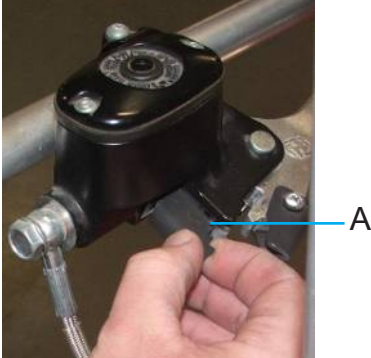

Figure 4
- Slide the latching section of the new pawl assembly in place as shown in Figure 4. Install the latching section in place and secure it using lock washers (F,G) and blue thread locker, applied 3/16" to 5/16" from the head and end of the screw. Note: A small pin or drill bit can be used to align the latch block with the master cylinder holes.